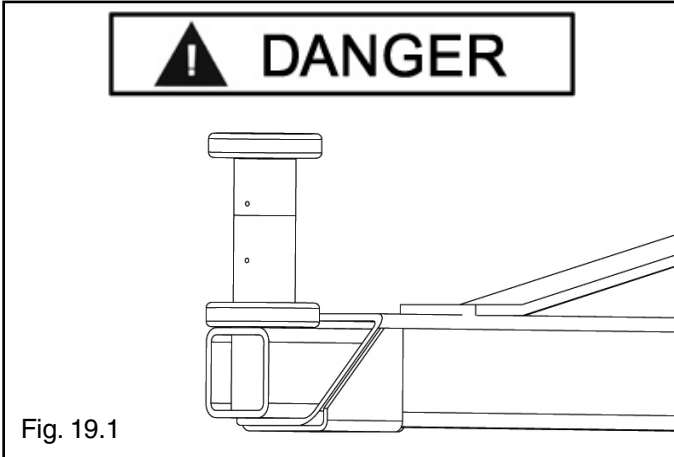

Fig. 19.1
- **ALWAYS** load vehicle on lift carefully. Position the lift adapters to contact at the vehicle manufacturer's recommended lift points. Raise lift until adapters contact vehicle. Check adapters for secure contact with vehicle. Raise lift to desired working height. (See Fig.19.1)